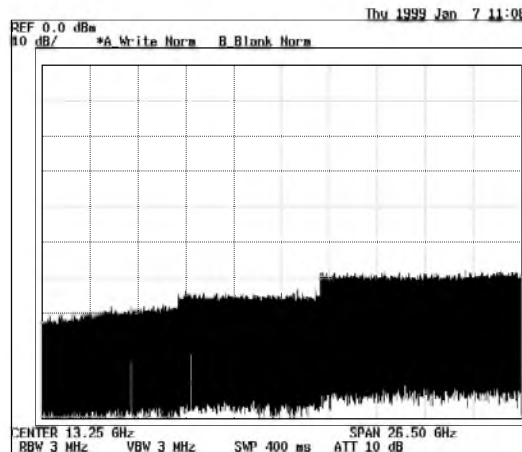

Figure 1-8 Start-up Screen
The R3267 Series performs the Initial test (processing time: approximately 10 seconds). The start-up screen is displayed as shown in Figure 1-8.
1. There is a possibility that the screen display is different from the one shown in Figure 1-8, depending on previously saved conditions.
The start-up screen is displayed as shown in Figure 1-8.